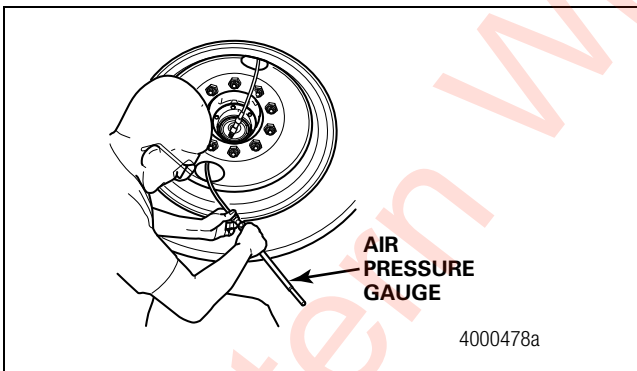
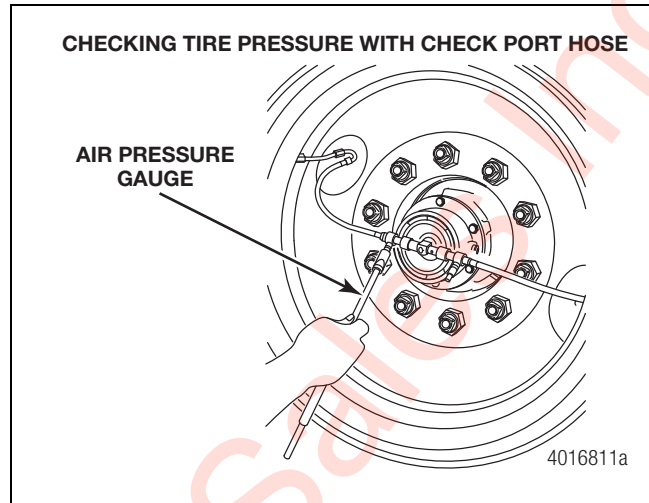

Figure 3.9
Figure 3.10
11. Disconnect the test-tire hose from the thru-tee. Check the test-tire pressure using an accurate air pressure gauge. Tire pressure should equal the system pressure setting on the decal in the control box. Figure 3.9 and Figure 3.10.